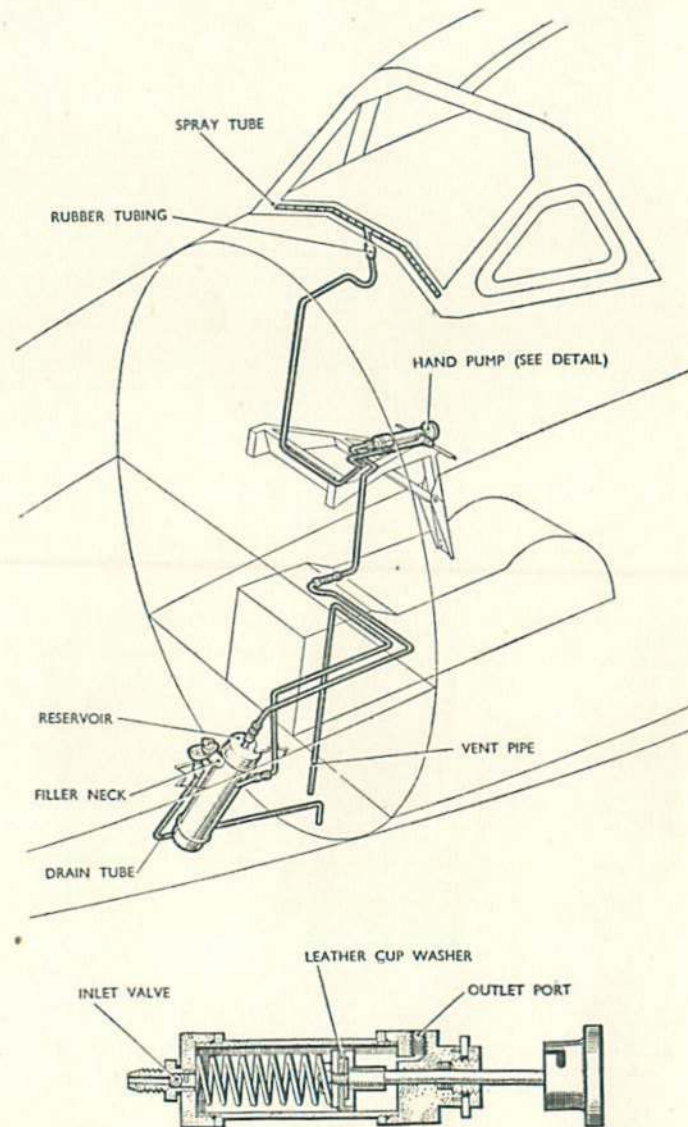

Fig. 1. Windscreen de-icing
1. The equipment for de-icing the outside of the windscreen consists of a supply tank, hand pump and spray unit. The installation of the equipment is illustrated in fig. 1. Details of the fluid specification and the capacity of the supply tank are given in the Leading Particulars.